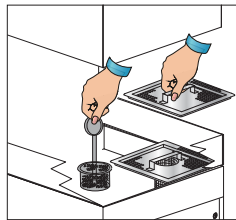

Fig. 1
1. Check if the pump suction filter is properly inserted in its seat on the wash tank bottom (Fig.1). This filter must be cleaned every 20 wash cycles or whenever necessary. **\*Do not use the appliance without the filters.** Put the surface filters in place (Fig.1), shut the dishwasher door, turn the water valve open and turn the main power switch on.